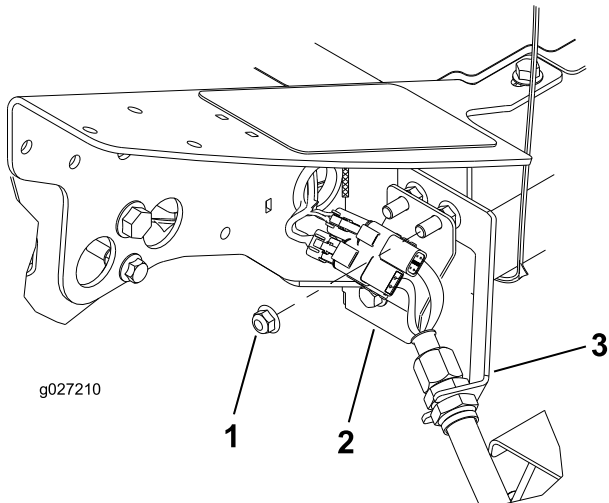

Figure 11
1. On the front left corner of the frame (#4 cutting unit location), remove the extra flange head nut on the bolt securing the bulkhead bracket to the machine (Figure 11).
3. Insert the connector plate onto the bulkhead-mounting bolts with the connectors positioned as shown in Figure 11.